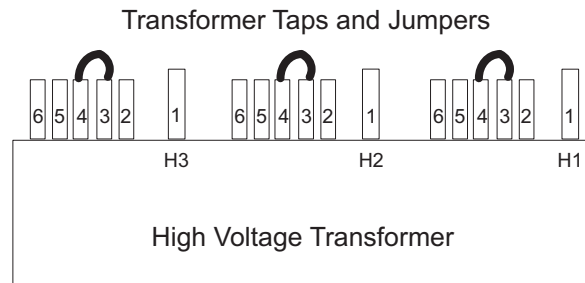

Figure 4-19 PDU Tap Positions (Rear)
- 2.) After you determine the nearest nominal line, verify the tap connections match (refer to Table 4-1 and Figure 4-19 for tap locations).